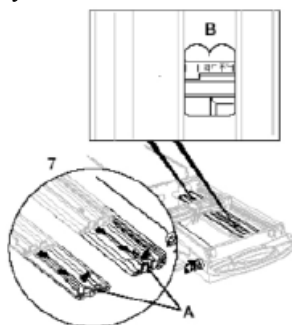

Figure 4-23. Note guide adjustment.
6. Refer to Figure 4-23. When the guide had been lifted up as far as permitted and end ‘A’ is moved as close to the cassette handle as it can get, you will be able to view two yellow scales with the letter ‘A’ through ‘M’ printed on them. The pointers on the scale will indicate the current note length setting. Adjust the guide from side to side to set the value for the note length of the document as determined from Table 4-1. Make sure both pointers are pointing to the same letter to ensure the note guide is parallel to the side of the cassette.
Refer to Figure 4-23. Set both pointers on the left note guide to the value for the "LeftAdj." as indicated by Table 4-1.